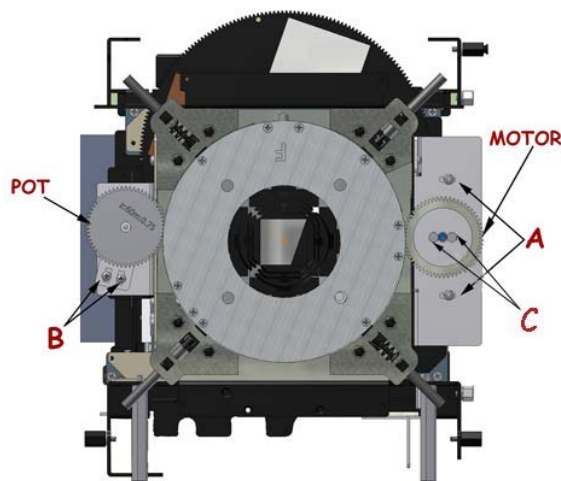

Fig. 1
- Tighten the two screws **A**, see **Fig. 1**.